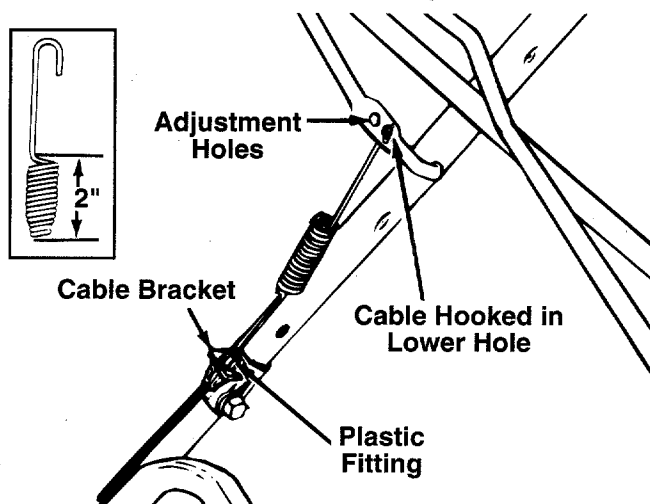

FIGURE 15.—Self-Propelled Models Only
1. Engage the drive clutch control handle (squeeze handle against the upper handle). Measure the spring on the drive clutch cable. It should measure approximately 2 inches long as shown in figure 15, inset.
2. If adjustment is necessary, loosen the screw which secures the cable bracket to the upper handle. Slide the cable bracket up or down as necessary. Check the spring length as instructed in step one. Tighten the screw when correct adjustment is reached. If additional adjustment is needed, hook the cable into the higher hole in the drive clutch control handle. See figure 15. Then readjust the cable at the cable bracket.